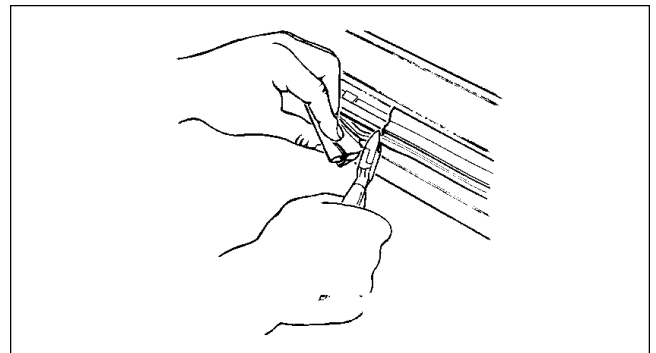

Figure 153
5. Pull the gasket out and cut the second part of the gasket. **DO NOT PULL UP ON THE GASKET.** See Figure 153.